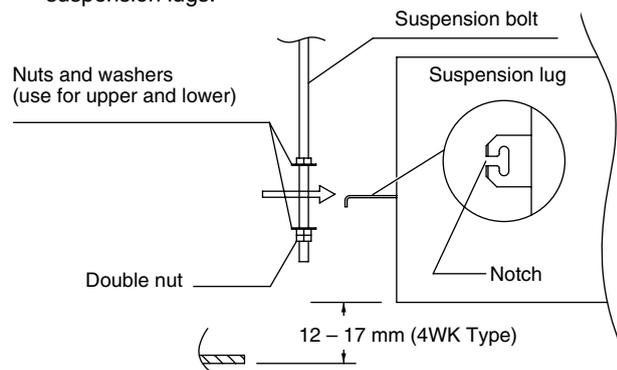

Fig. 3-5
- (3) Thread the 3 hexagonal nuts and 2 washers (field supply) onto each of the 4 suspension bolts (Fig. 3-5). Use 1 nut and 1 washer for the upper side, and 2 nuts and 1 washer for the lower side, so that the unit will not fall off the suspension lugs.